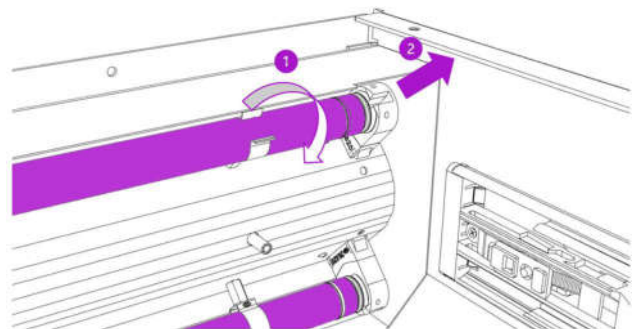

Abb. 17
3. Turn the UV-C lamps in direction of arrow as shown in Fig. 17 (1) until you hear a clicking sound. Remove UV-C lamps in direction of arrow (2). Dispose of the UV-C lamps (see **Fehler! Verweisquelle konnte nicht gefunden werden. 7**, page 27)